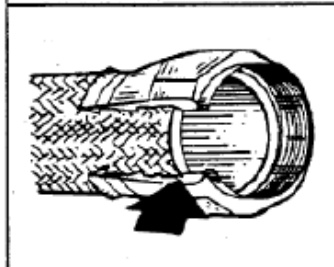

Figure 3
4. Place the hex portion of the nipple in the vise. Insert the end of the hose onto the nipple and bottom the hose against the shoulder of the nipple with a rotary motion of the hose. This will size the I.D. of the Teflon tube. (**Figure 3**)